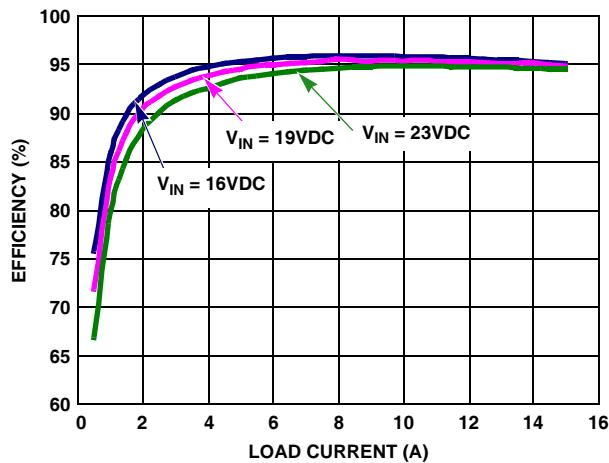

**FIGURE 2. PROPER PROBE SET-UP TO MEASURE OUTPUT RIPPLE AND PHASE NODE RINGING.**
6. Use oscilloscope to observe output voltage ripple and Phase node ringing. For accurate measurement, refer to Figure 2 for proper test set-up.